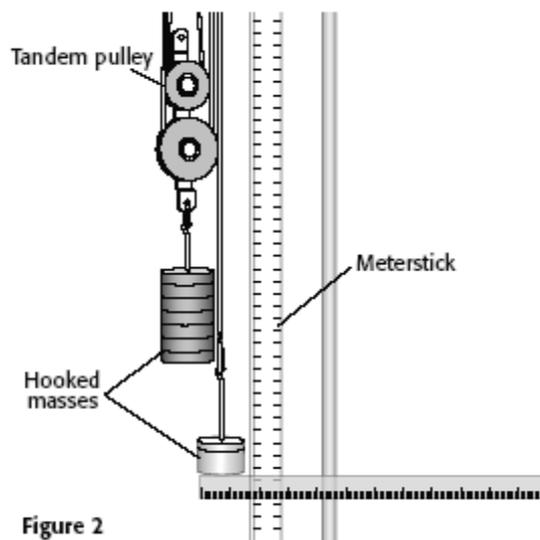

Figure 2
- Set up a pulley system like the one shown in **Figure 2**. For the first trial, use five pulleys. Keep the area beneath the pulley system clear throughout the experiment. Measure the mass of the bottom set of pulleys before including them in the setup. Attach a 500 g mass to the bottom, as shown. Record the total mass of the 500 g mass plus the bottom set of pulleys as $mass_1$ in your data table.